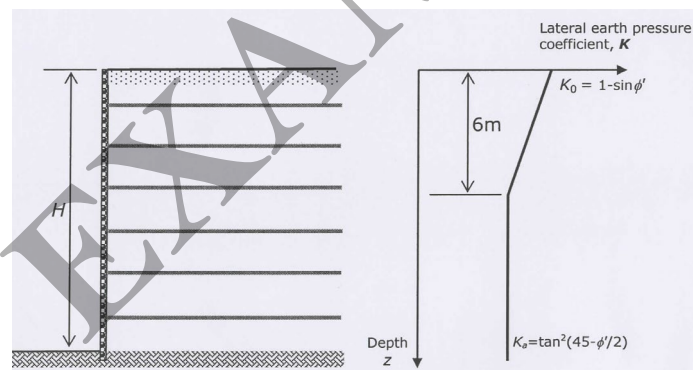

Figure 4
- The coefficient of lateral earth pressure acting on facing is given in Figure 4.